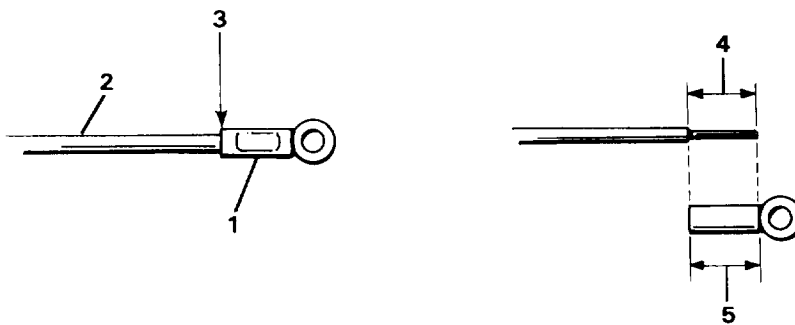

Figure 4-10. Ring Tongue Terminal
- a. Cut terminal (1, Figure 4-10) from wires (2) as close to terminal insulator (3) as possible.
- b. Strip wire end, using wire stripper tool, to the length of the new terminal insulator (5) being installed.
- c. Slide new terminal (1) onto exposed wire end (4) and crimp securely at the center of the insulator (5).